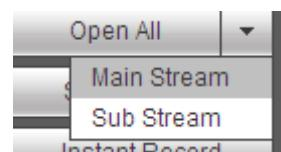

Figure 5-9
- Section 3: Open all. Open all button is to enable/disable all-channel real-time monitor. Here you can select main stream/sub stream too. See Figure 5-9.